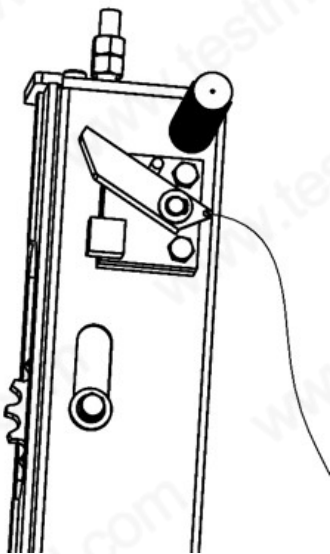

Figure 2: To release the securing device, the rope of the securing pawl is pulled and the impact unit is moved past it
3. Pull the limiter manually and slowly reduce the impact device (see Figure 2).